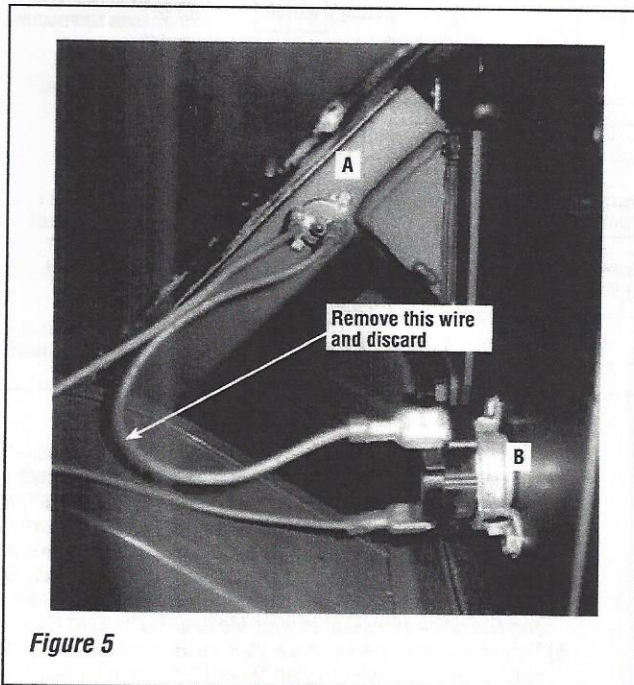

Figure 5
- 2) Remove the short section of wire connecting snap switch "A" to snap switch "B" as shown in **Figure 5**. Use caution not to damage the snap switches when removing wire connectors from the snap switch terminals. Once the wire is removed, it can be discarded.